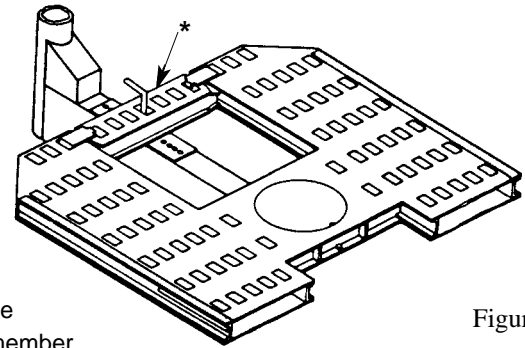
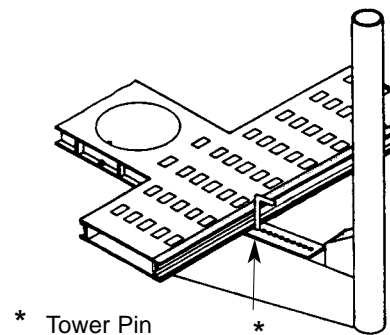

Figure 7
Figure 8
1. Swing tower to desired lateral pulling angle and pin it to mainframe or movable crossmember. (See Figure 7.) Tower pin can be used in any tie down hole or along edge of machine. (See Figure 8.) **DO NOT** position tower pin in front of or at rear of movable crossmember as it will apply excessive stress to crossmember locks. Instead, install tower pin through crossmember tie down hole. (See Figure 7.) Tower pin must be fully seated in lower pinning hole to avoid damage to top pinning hole. (See Figure 9.)